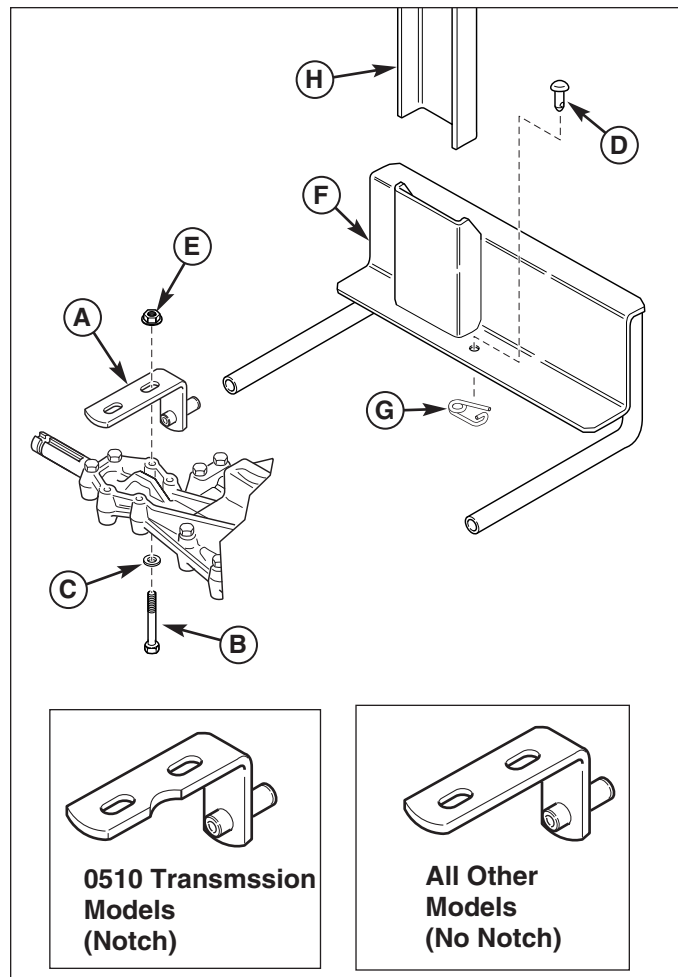

Figure 13.
Note: Units with 0510 transmissions use anchors (A, figure 13) with a notch, all other units use anchor with no notch. See Inset Figure 13.
1. Assemble the two anchors (A, figure 13) to the transmission housing using the 5/16-18 x 3 capscrews (B), washers (C) and nuts (E). Install the capscrews from the bottom of transmission. Do not tighten hardware at this time.
2. Position support assembly (F, figure 13) on anchors and secure to rider with safety clip pin (G) and round pin (D).
4. Place catcher support (H) into support assembly as shown (figure 13).